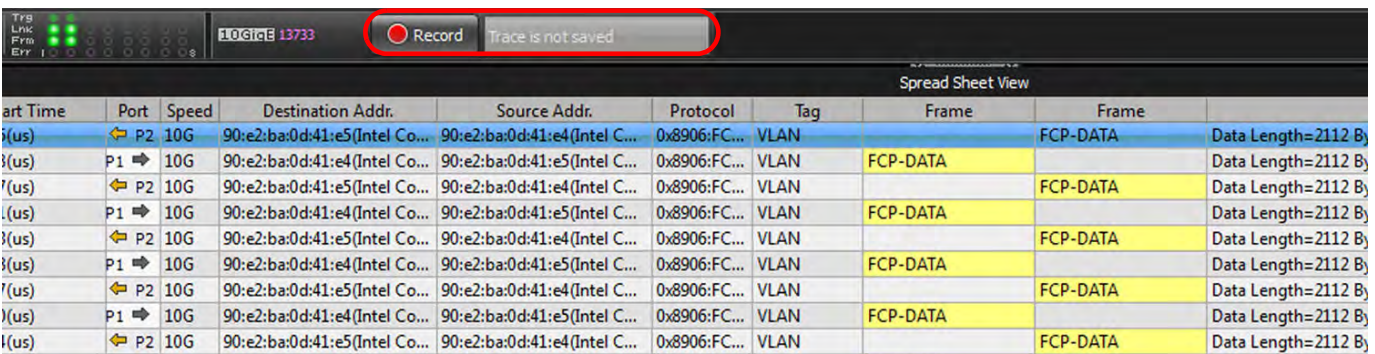

Figure 4.63: SSP Trace Data has not been Saved to Host Memory
- After the data is Indexed, the Record button turns back on, but the Session Status Panel shows “Trace is not Saved”. See Figure 4.63. “Trace is Not Saved” means that the trace is opened for viewing in Quick View mode, but it has not been saved to disk.